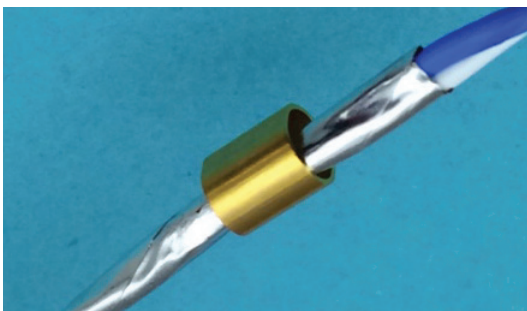

Figure 25: Adding ferrule on pair
17. Slide an oval ferrule on each shielded pair (Figure 25).